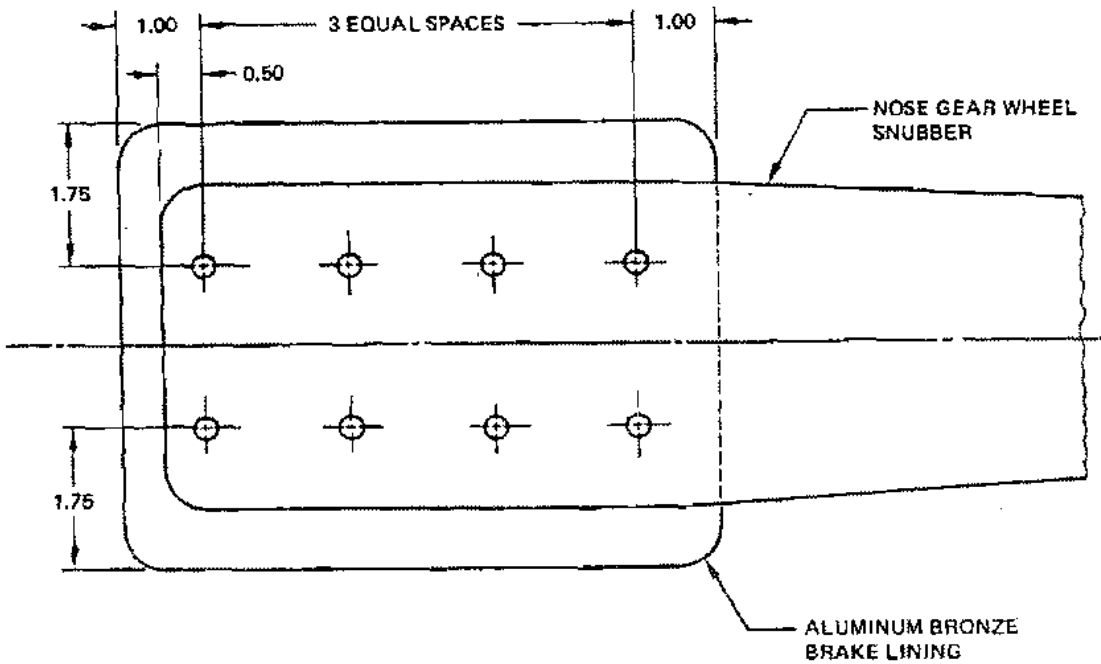
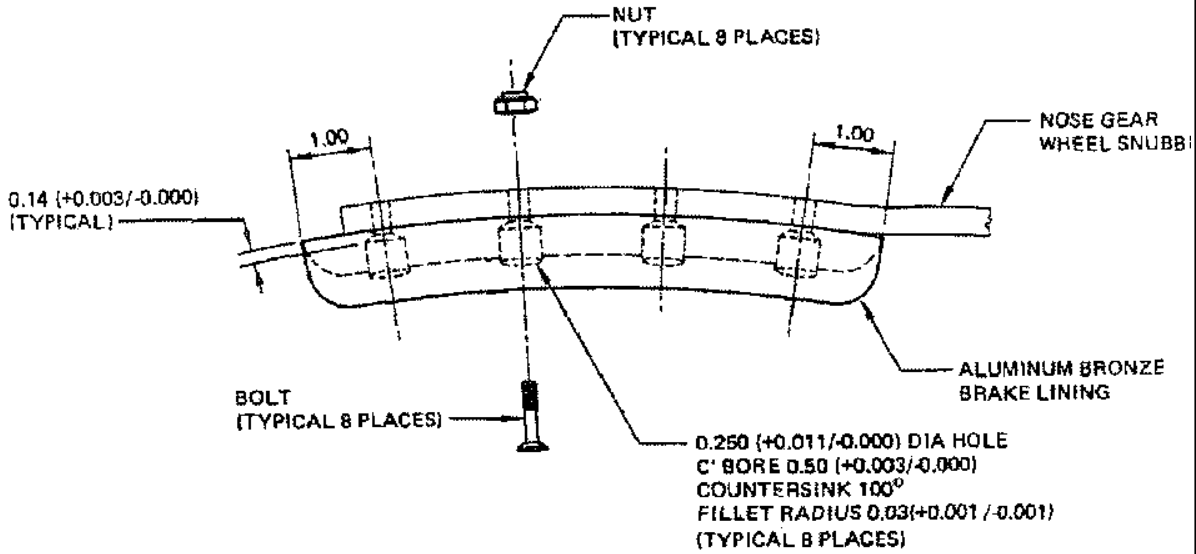

Fig. 3: Details on bore holes, rear view (dimensions in inches)
Fig. 4: Details on bore holes , side view (dimensions in inches)
- 3.1 Using nose gear wheel snubber as a guide, drill holes in lining, follow detailed instructions at fig. 3, fig. 4 (extracts of drawing 50-8792, sheet I , frame 1)
- 4.1 Position brake lining on snubber, install bolts and nuts (see fig. 4)